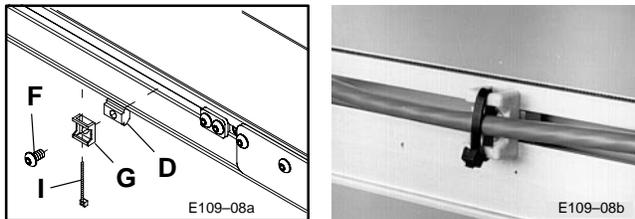

Figure 8: Zip Tie Mounting Detail
- d. To route Cable over a previously mounted component or to anchor the Cable, use the Zip Tie Mounts (G) and Single Drop-in T-bars, (Figure 8). Secure each Zip Tie Mount with an M6 x 10 mm Button Head Cap Screw (F). Tighten the Screws with the 4 mm Hex Key Wrench (L) provided.